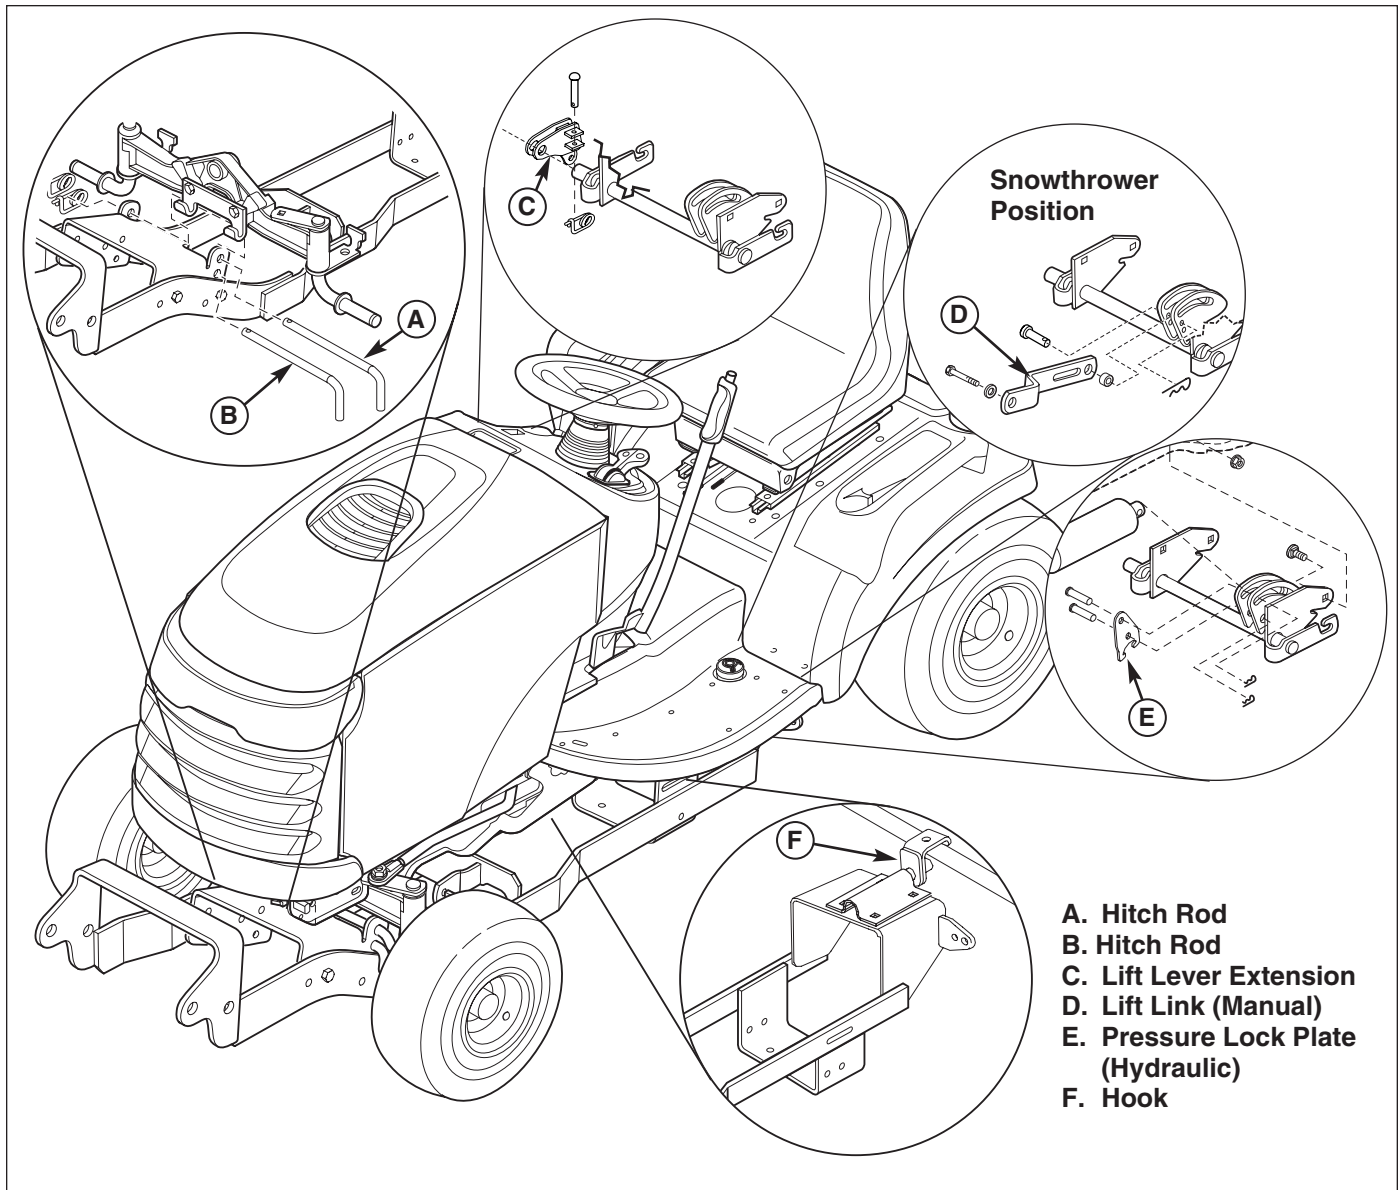

Figure 12. Normal Installation & Removal
1. Disconnect the lift rod from the attachment and lift lever extension (C, Figure 12).
2. Remove the clevis pin and clip from the lift lever (C) and remove the lift lever.
3. Remove the front hitch rod (A) and (B). Remove the hitch and hook (F).
4. Remove the lock plate (E) OR reposition the lift link (D) in mowing position.
1. Insert the hook (F, Figure 12) into the back of the hitch. Mount the rear of the hitch on the lift cross-shaft.